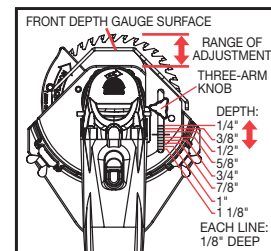

Figure 6
- To adjust, loosen the three-arm knob and move the depth gauge in or out as required (Figure 6).